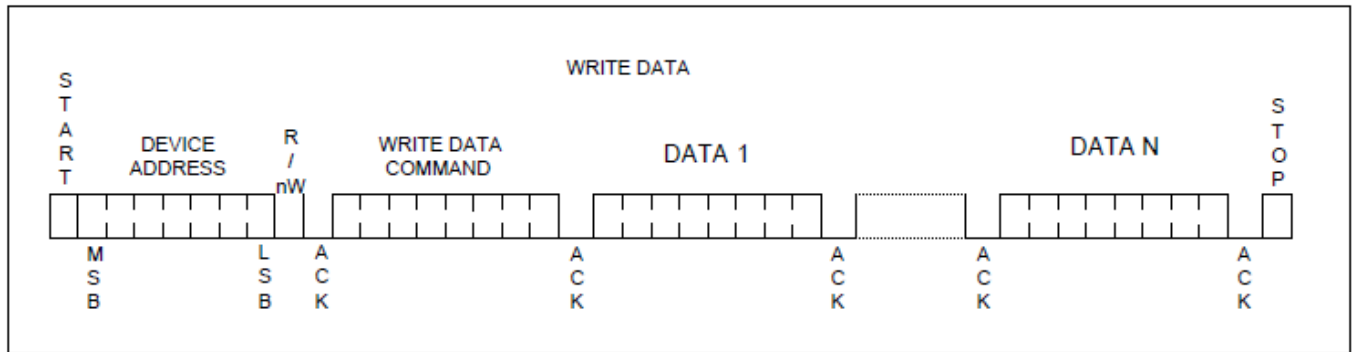

Figure 2-11 : Write data transfer
- A "WRITE_" command must follow the I²C write data protocol (see Figure 2-11)